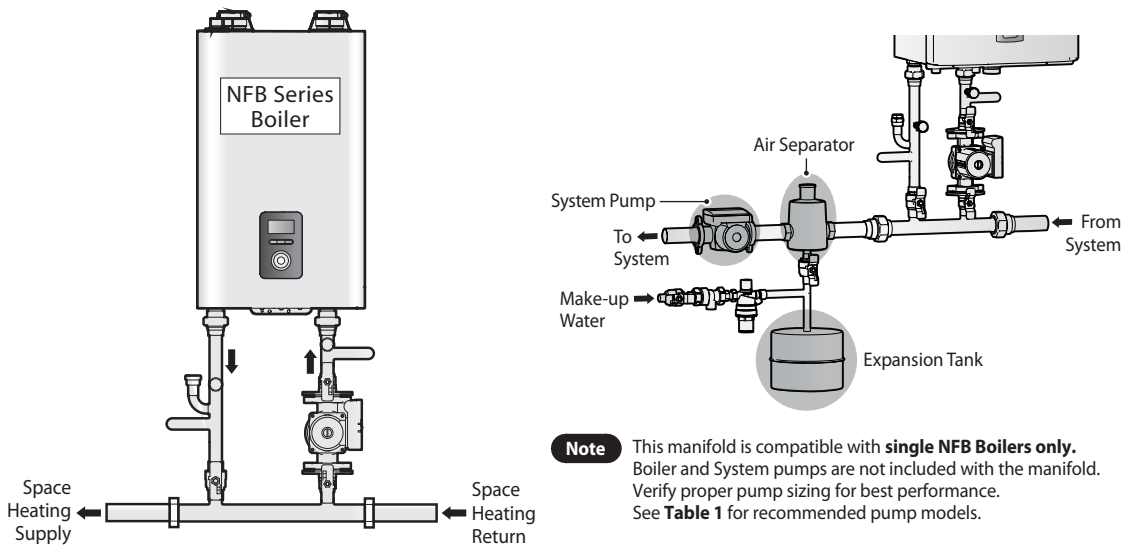

FIGURE 2: NFB-175/200 Series Manifold Piping Setup with Accessories
- Install any required accessories such as an air separator, expansion tank, check valve, etc. on the heating supply side as illustrated in **FIGURE 2** below.